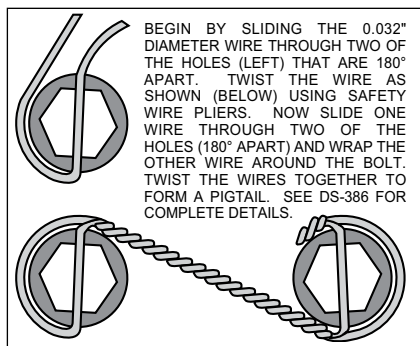
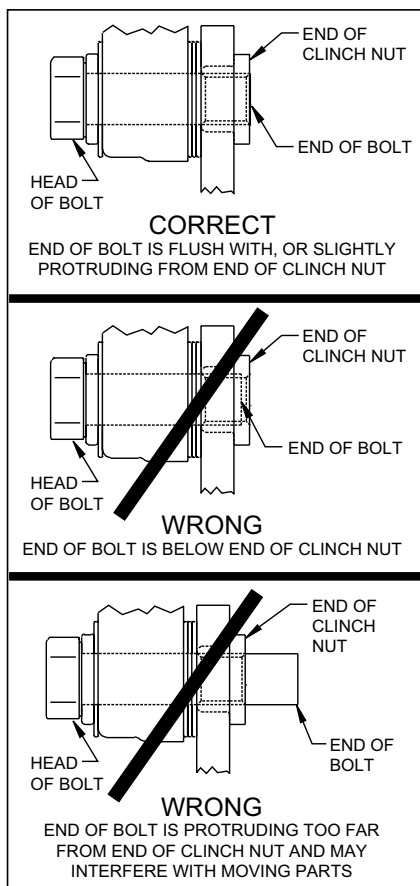

Figure 3. Safety Wire Diagram
Figure 4. Clinch Nut Engagement Diagram
CAUTION: All mounting bolts must fully engage clinch nuts. Be sure to check that all bolts are either flush or protruding through flanged side of clinch nut after shimming, Figure 4.
- The rotor (3) has two sides. A flat side and an inset side. Bolt hat (2) to flat side of rotor (3) using bolts (5). Apply red *Loctite*® 271 to the bolt threads (5) and torque to 25 ft-lb using a criss-cross pattern. Safety wired bolts using standard 0.032 inch diameter stainless steel safety wire as shown in Figure 3. Please refer to Wilwood's data sheet DS-386 (available at www.wilwood.com/Pdf/DataSheets/ds386.pdf) for complete safety wire installation instructions.
- Align the correct hole pattern in the hat (2) with the stud pattern on the axle flange. **NOTE:** *Some OEM and after market axles come with stud sizes larger than 0.50" diameter.* Verify stud size and have a qualified machine shop drill the hats to the correct size. Slide the hat/rotor assembly (2 and 3) over the wheel studs and against the axle flange face.
- NOTE:** *Please reference the caution statement at the beginning of the assembly instructions.* Mount the caliper (6) over the rotor (3) and onto the caliper mounting bracket (1) using washers (7) and mounting bolts (8). View the rotor through the top opening of the caliper. The rotor should be aligned in the center of the caliper. If not, adjust the caliper by using 0.032 inch shims (9) by placing them between the caliper mounting bracket (1) and the caliper (6). Add as many shim washers (9) as necessary to achieve the correct alignment. **NOTE:** *The end of the bolt must be flush with or slightly protruding from the head of the clinch nut. See Figure 4.* Place spare shims (9) between washer and caliper mounting ear to achieve the proper mounting fastener configuration. Always use the same amount of shims on both the top and bottom caliper mounting bolts (8). Apply red *Loctite*® 271 to the mounting bolt threads (8), torque to 40 ft-lb. Caliper mount bolts may be safety wired for additional security.